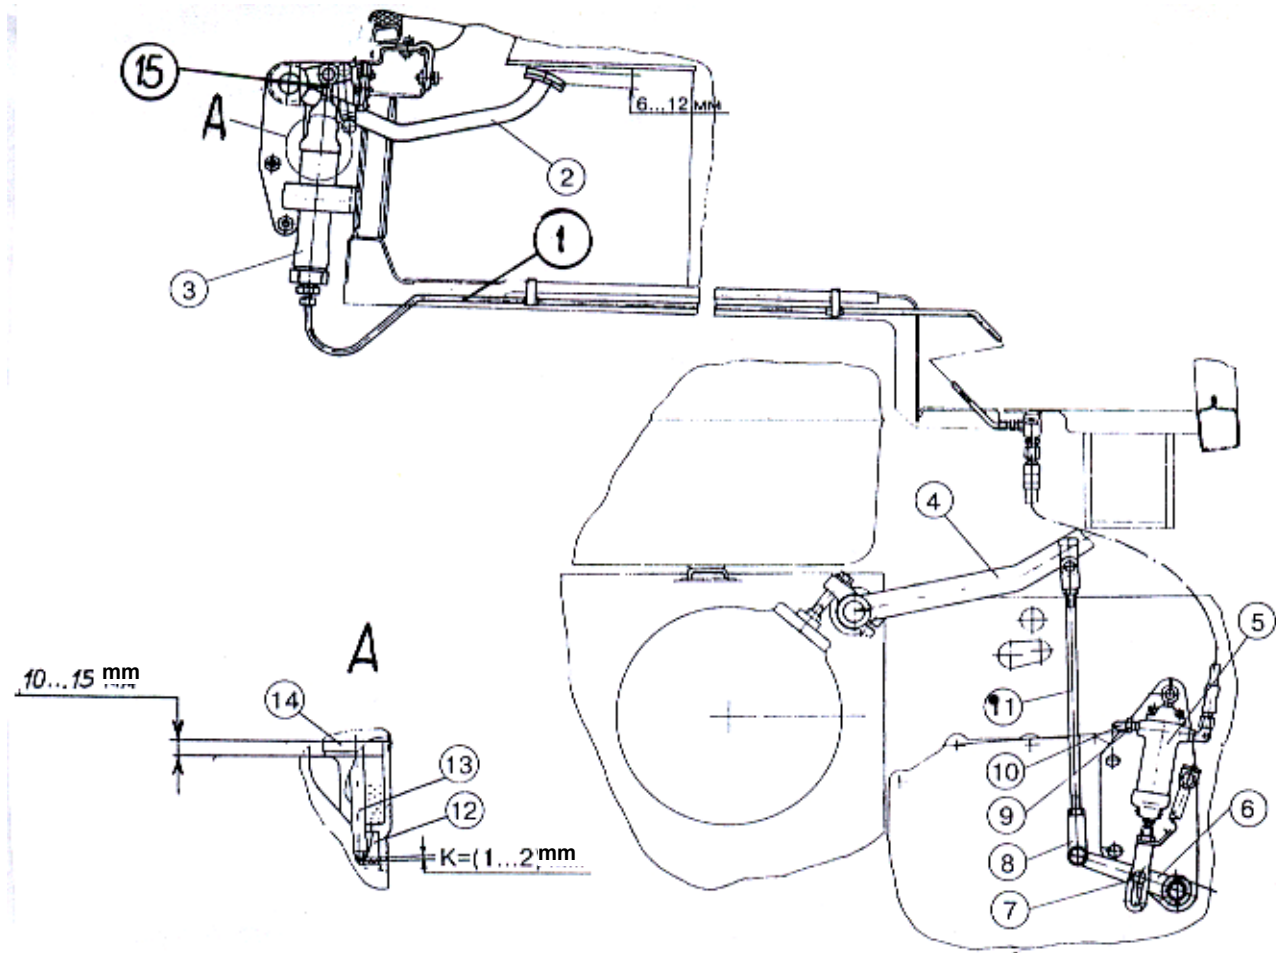

Fig. E-21.1. Brake control in the reverse operation mode:
For operation in reverse, the reversible tractors are equipped with hydrostatic service brake controls which act onto lever (4) (refer to Fig. E-21.1) of the right-hand straight-ahead brake pedal. An additional, reverse brake pedal (2) actuates the master brake cylinder (3) which is